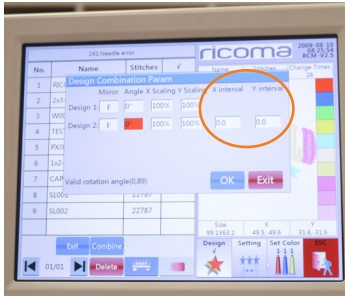

Figure 68
5. You can now select the distance between the designs in order to space them out. Input a value into the X-interval and Y-interval option in order to space them out. **See Figure 68.**